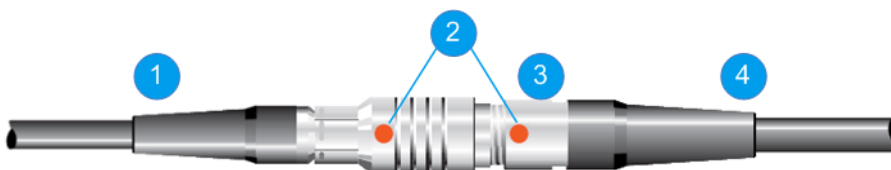

Figure 4-2: Connecting the host connector
- ▶ Pull at the host connector (3 in Figure 4-2) until it disconnects from the connector of the USB adapter.